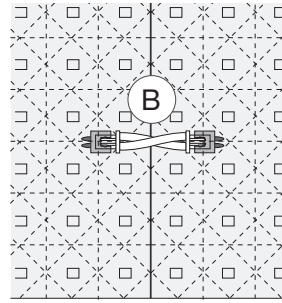

Figure 1
Short sheet-to-sheet connectors (B): When adjacent Auragami LED Sheets are mounted side-by-side with connection blocks aligned, the shorter sheet-to-sheet connection wires (B) should be used to interconnect multiple sheets. Their lengths are optimized so sheets align snugly. See Figure 1.